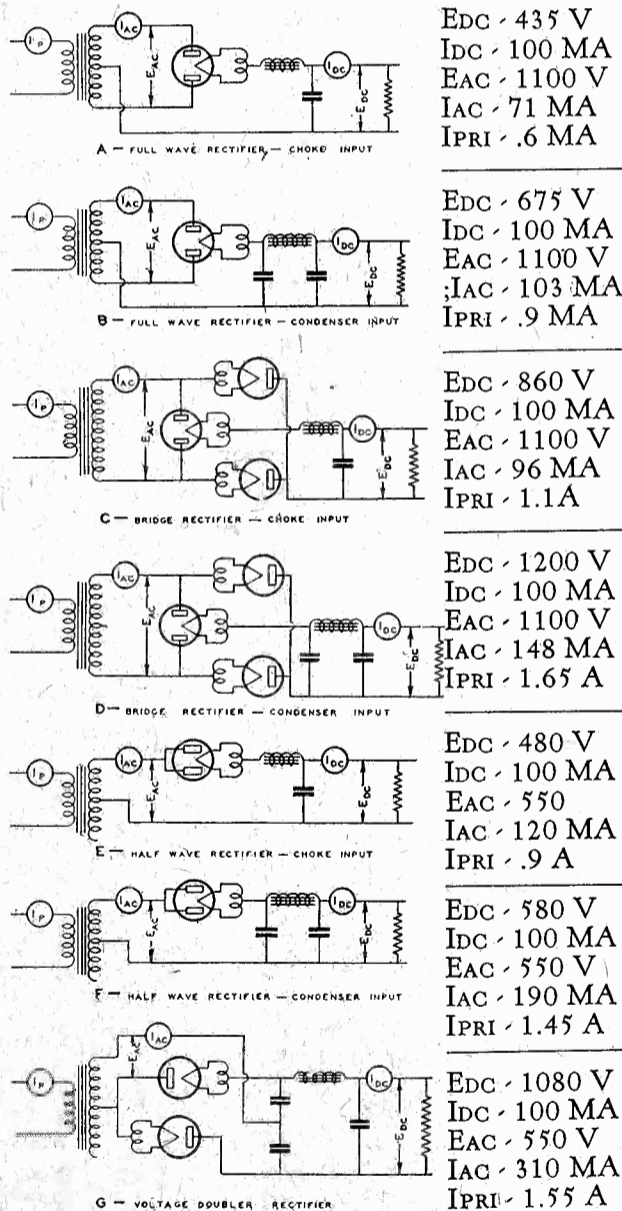

FIG. 1
Fig. 1 illustrates the result of his work. He discovered that when he changed from choke input full wave rectification (A) to condenser input (B), the AC current in his transformer secondary had changed from 71 mills to 103 mills. Also, simultaneously, the primary current of the transformer had gone up from .6 amp. to .9 amp. When he went to the bridge rectifier, (C), he found the secondary current again about 100 mills, but the primary current had risen still higher, to 1.1 amps. Finally, in the last method he had originally used for his transmitter, that is, condenser input (D), the AC current in the transformer secondary was 148 mills and the primary current 1.65 amps. Naturally, it was apparent to Joe that the transformer had burned out due to abuse rather than poor workmanship.
It is interesting to analyze the results shown in Fig. 1. These results can be applied to any standard rectifier. The ratio of AC to DC current, etc., can be definitely taken from this data. Where condenser input is used, the AC current will depend considerably on the value of the condenser and the value of DC load. The critical factor in the output available from a power transformer is the transformer's temperature rise. Insulation as normally used in the winding of power transformers will not stand up above certain limiting temperatures. The temperature rise in a transformer is almost directly proportionate to the ratio of the total wattage loss in the transformer as compared to the heat dissipating surface of the transformer. In the normal design of a transformer, this wattage is approximately equally divided between iron losses and copper losses. The iron losses are not affected very greatly by load but the copper loss is. Following the law of our old friend Ohm, we find that wattage losses in the windings of a transformer are equal to $I_{ac}^2 \times R$, where I_{ac} is the effective AC current in the winding and the R the resistance of the winding. The value of I_{ac} in the secondary, while directly proportionate to the DC current, is not equal to the DC current. This is apparent from Fig. 1.
Again referring to Fig. 1 and using the I^2R principle, we find that if we take the wattage loss in (A) as normal for the transformer windings, the wattage loss in (B) is approximately double in both primary and secondary; that is, the AC current has increased to 1.4 times its original value and squaring this, we get 2.